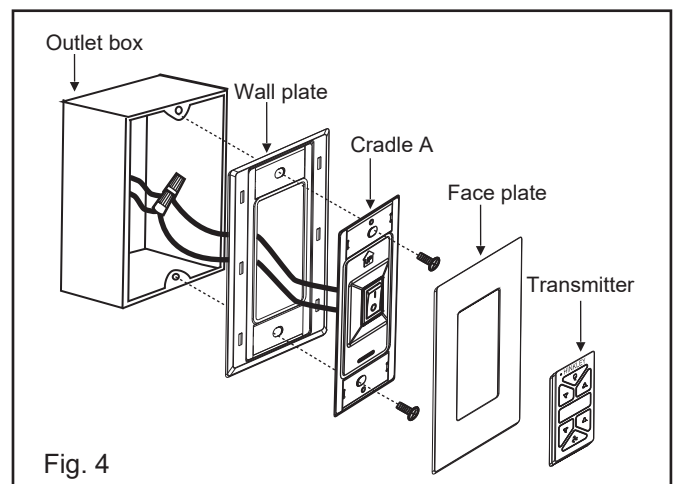

Fig. 4
2. Seat the cradle A into the wall plate. (Fig. 4)